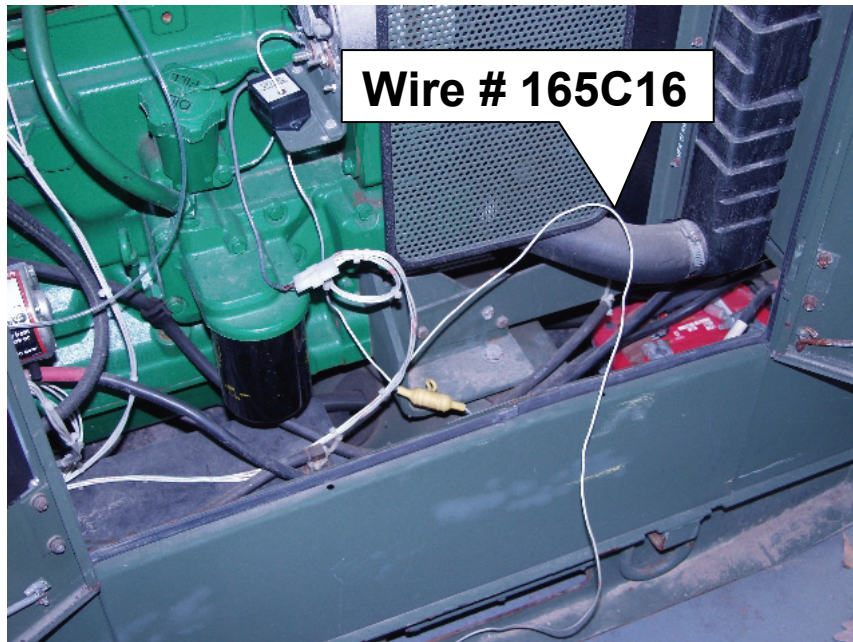

Figure 3 Alternator compartment
- 3 Remove wire #165C16 from harness and battery current transformer (BCT), see figure 3.